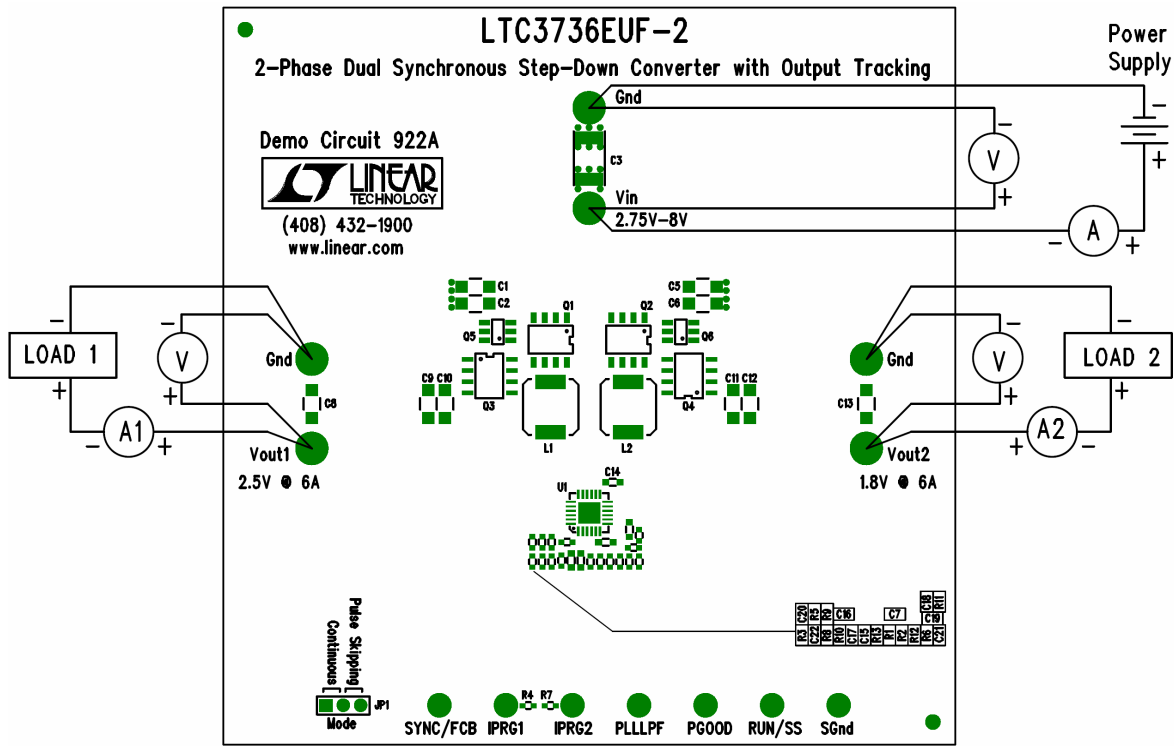

Figure 1. Proper Measurement Equipment Setup
Demonstration circuit 922A is easy to set up to evaluate the performance of the LTC3736EUF-2. Refer to Figure 1 for proper measurement equipment setup and follow the procedure below:
2. Connect the 2.5V load (Load 1 in Figure 1) between Vout1 and GND; connect the 1.8V load (Load 2 in Figure 1) between Vout2 and GND. (Initial loads: no load.)